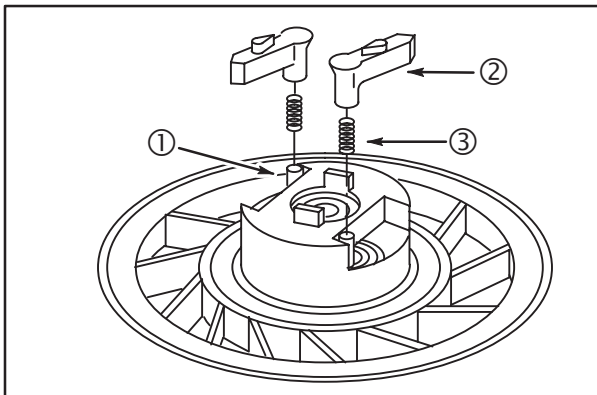

Fig. 62
1. Position springs (3) over posts in pulley (1). Install dogs (2), **Fig. 62**.